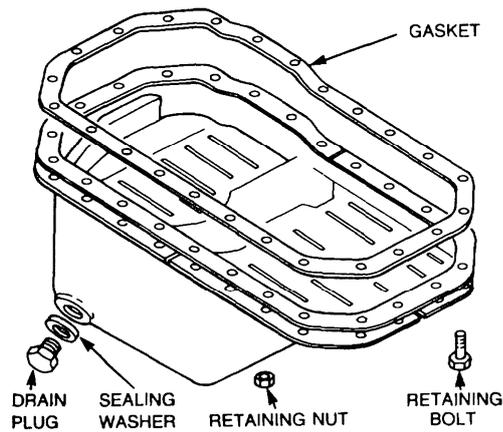

Figure 12 Engine Sump Removal
- Remove the sump and the supporting plates (Figure 12).